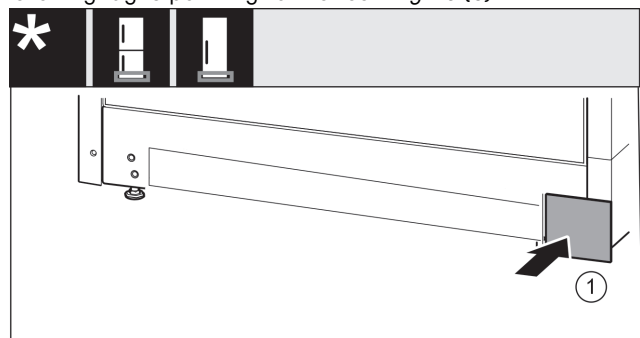

Fig. 14
- ▶ Put the cover back on the other side. Fig. 14 (1)